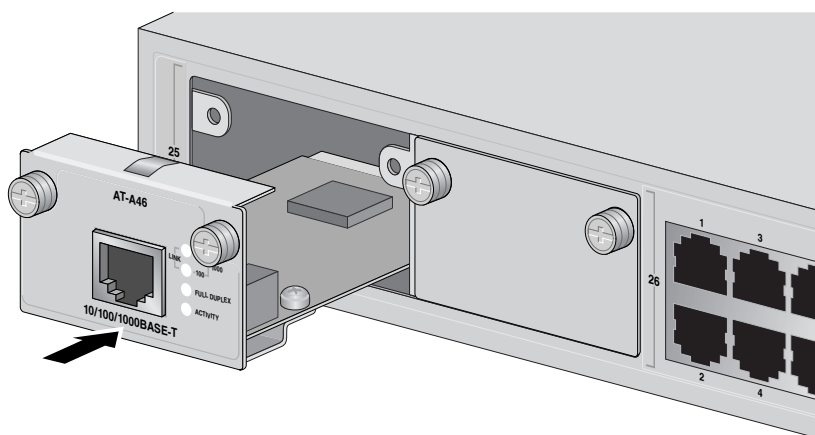

Figure 24. Installing a Module
6. Carefully slide the module into the slot until the module faceplate makes contact with the switch, as displayed in Figure 24. Avoid touching the module components.